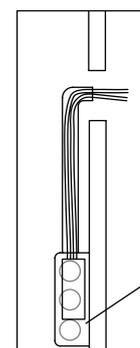

Fig. 1
2. The LED driver (A) must be installed in a remote and accessible location near the fixture in accordance with local electrical code (Fig. 1).
- c. Connect the LED driver's positive (+) output wire to the necessary length of red wire (not included) to reach the fixture (B) location.
3. Using the fixture (B) as a template, drill a small 1/4" hole (C) in the wall behind the fixture at one end, and pull the low voltage wires from the first LED driver (A) through the wall. Repeat for the second LED driver at the other end.
4. Using the fixture (B) as a template, install mounting screws (D) with the provided Allen key (E) and anchors (F). Do not tighten screws completely.
5. Pull the LED Drivers' (A) positive (+) and negative (-) wires and route through the wire slots (G) on both ends of the fixture (B).
6. Hang fixture (B) on the hooks (H), secure fixture by tightening Allen mounting screws (D) using provided Allen key (E).